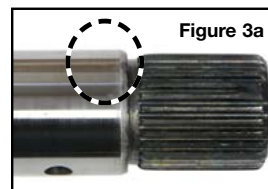

Figure 3a
1. Prepare shaft by lightly sanding leading edge to remove sharpness of chamfer (**Figures 3a & 3b**).